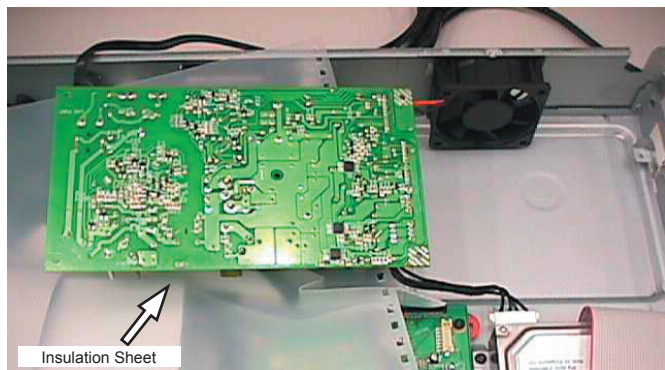

Figure 4-9: PSU Board Service Position
- 2) Service position for PSU Board is given in Figure 4-9.